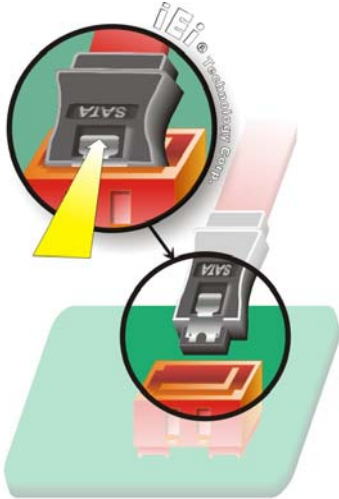

Figure 0-16: SATA Drive Cable Connection
Step 2: Insert the cable connector. Press the clip on the connector at the end of the SATA cable and insert the cable connector into the onboard SATA drive connector. See **Figure 0-16**.